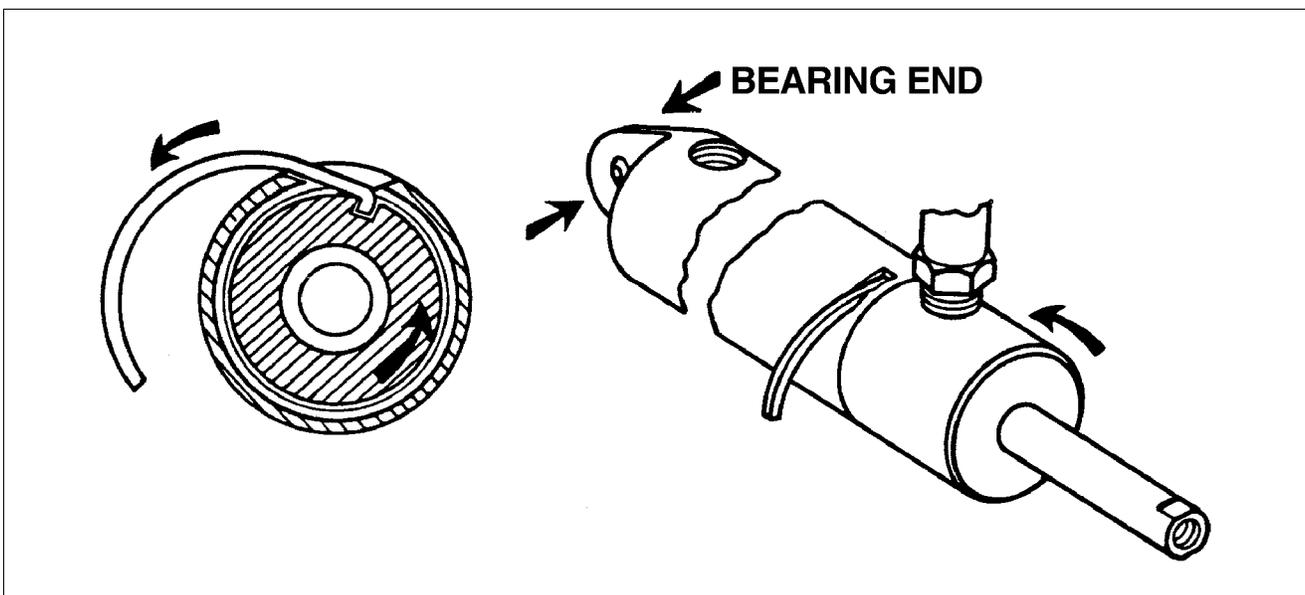

Figure 32-14. Main Gear End Gland Locking Device
**(1) Removal of Main Gear Actuating Cylinder**
**(2) Disassembly of Main Gear Actuating Cylinder (Refer to Figures 32-14 and 32-15)**
- (d) Rotate gland counterclockwise (with use of fitting) until end of gland lock ring shows in slot in cylinder body. Reverse rotation of gland (clockwise direction) to allow lock ring to move out of the slot. (Refer to Figure 32-14) It may be necessary to give ring an assist to start out of slot. If so, insert a strong wire pick or other available tool in slot to lift up end of ring and then rotate gland.